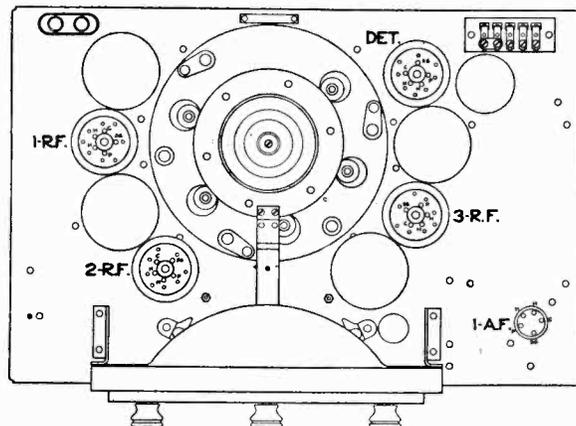

Fig. 5—Location of Radiotron Sockets in Radio Chassis.
- a. Faulty UY-224 in detector socket. (See Fig. 5 for location of various sockets.) At least one UY-224 out of the four will usually be found which will produce a minimum hum in the detector socket.